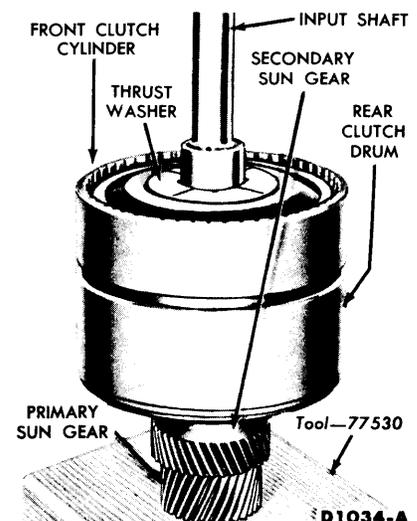

FIG. 6—Input Shaft, Clutches and Primary Sun Gear
17. Install the clutch assemblies in the bench fixture (Fig. 6).